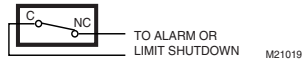

Fig. 3. Normally closed airflow pressure switch.
3. Before pressure is applied to the diaphragm, the electrical switch contacts will be in a normally closed position (AP5210-30) as shown in Fig. 3.